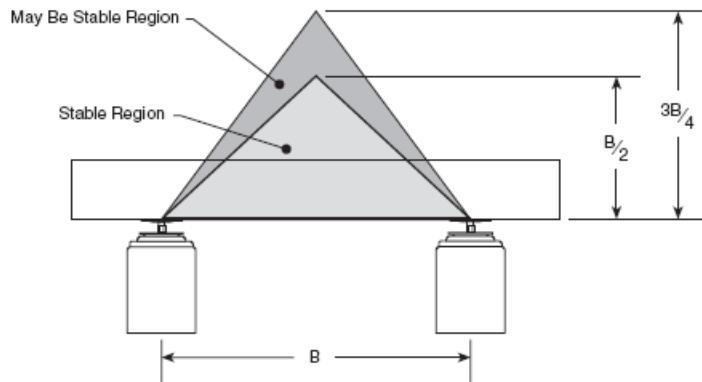

Figure 14—System Stability
2. A rule of thumb for determining high center of gravity (C-G) system stability is shown in Figure 14. If the combined center of gravity of the payload and table top is within the “stable region”, the system will be stable. If the combined C-G is inside the “may be stable region”, the